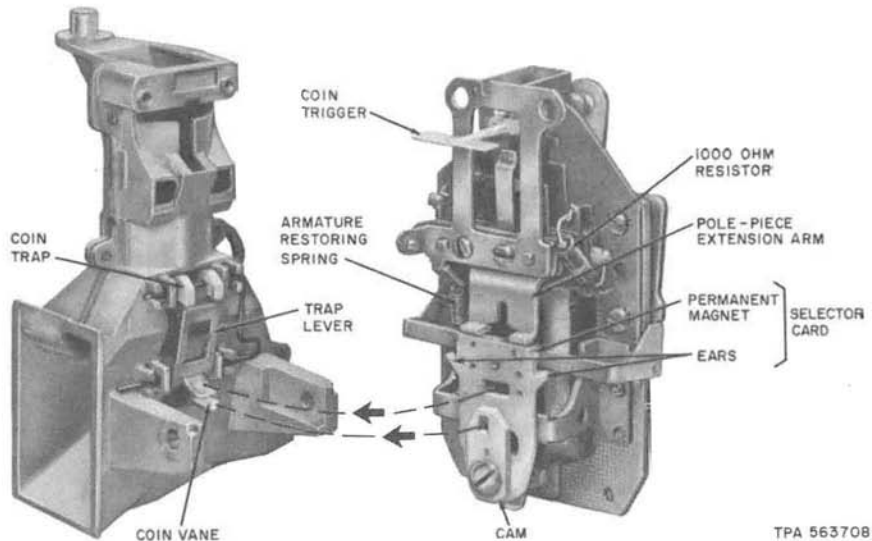

Fig. 27—Coin Hopper and Rear View of Coin Relay
- (4) Check that hopper trigger (Fig. 27) is in horizontal (up) position and pull off coin relay. **Do not damage hopper trigger.**
4.08 To install 1A coin relay (Fig. 27):